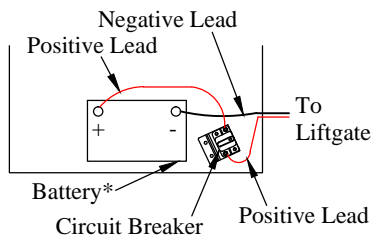

Figure 17: Circuit breaker bracket.
1. **Install** the circuit breaker on the circuit breaker bracket with 1/4" screws and nuts (Figure 17).